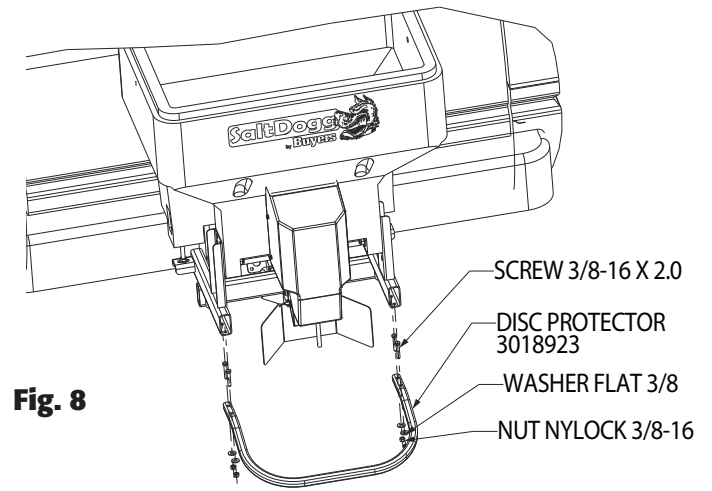

Fig. 8
8. Attach spinner protector #3018923 to spreader frame as shown in Fig.8.